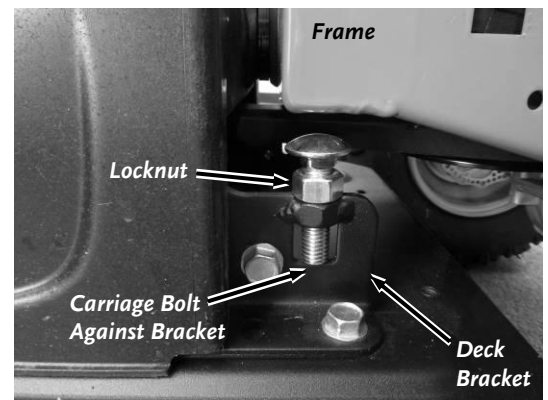

Figure 14
There are two Deck Pivot Carriage Bolts on your DR Field and Brush Mower Deck. The machine should have been shipped with both Bolts in the lowest position (**Figure 14**). If they are not both in the lowest position, perform the following procedures.
1. Loosen both Locknuts using a 3/4" Wench as you hold the square portion of the Carriage Bolts using a 1/2" Wrench (**Figure 14**). Turn the Locknut up against the Bolt Head.